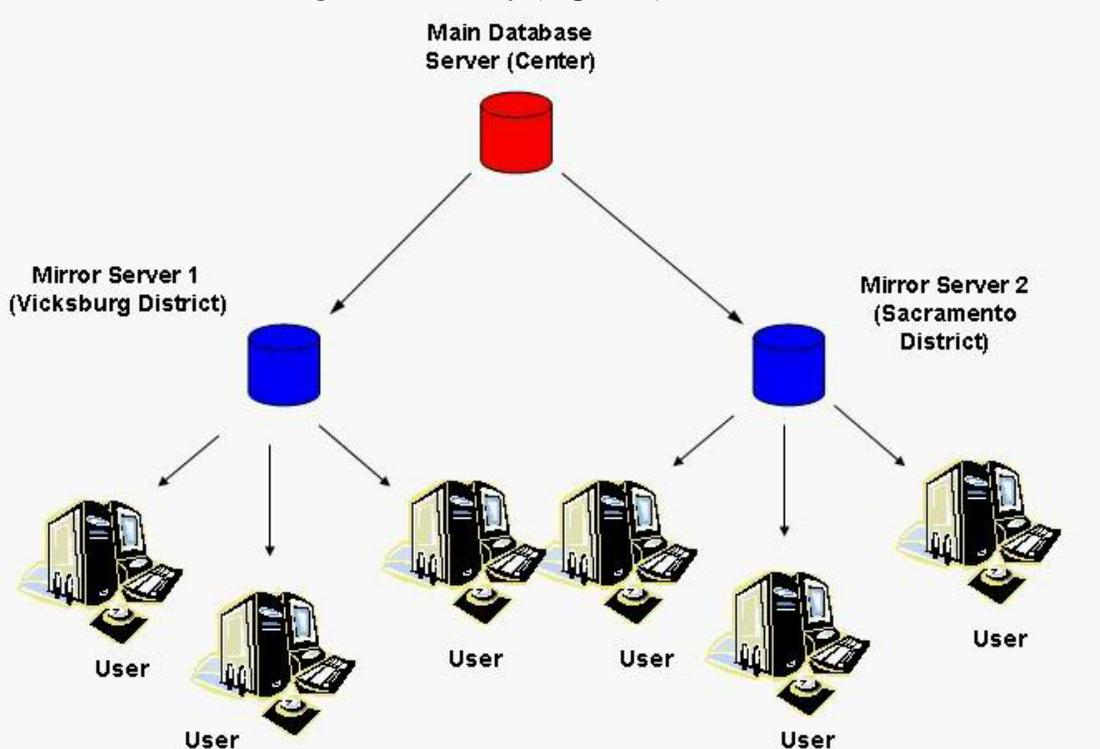

Figure 6 How NetSPEX data gets to the user
test implementation, to see if NetSPEX could ultimately replace the Workspace methodology for implementing the Standard. In April, ProSoft offered 50% off the current prices for NetSPEX, so the Center purchased the following: the NetSPEX Main Server software, two (2) copies of the NetSPEX Mirror Server software, and one hundred (100) licenses of NetSPEX Designer. How does all this work? The Center will maintain the A/E/C CADD Standard database on a server located at the Center, using NetSPEX Administrator. Two remote locations (COE District offices) will be the hosts of the mirror servers. When a change is made to the A/E/C CADD Standard, the Center can “push” those changes at any time to the Mirror Servers. Once the change is pushed to the Mirror Servers, any person capable of using NexSPEX Designer Workstation within the network will see these changes immediately (**Figure 6**).